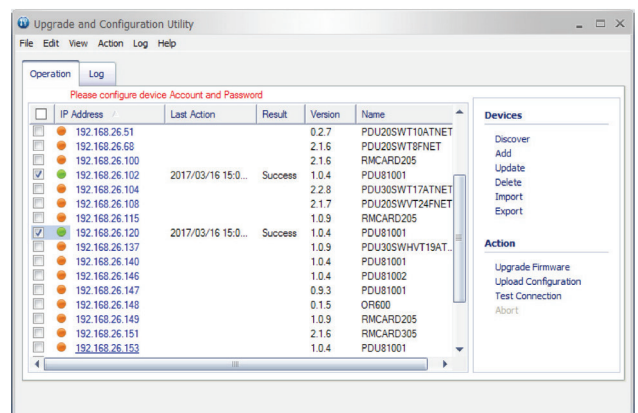

Figure 7
10. The result of firmware upgrade will show in **Result** column (Shown in Figure 7).